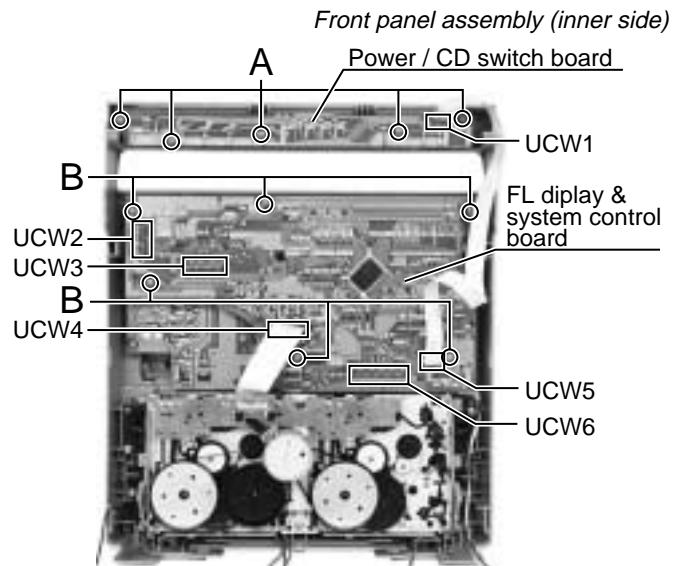

Fig.1
■ Removing the power / CD switch board (See Fig.1)
■ Removing the FL display & system control board (See Fig.1)